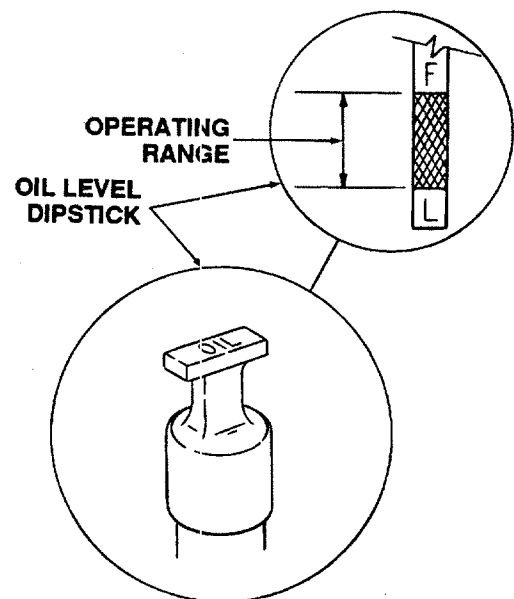

Figure 19
Before each use, the oil level of the engine crankcase should be checked to see that it is filled to the correct level. Close monitoring of the oil level during the first 10 hours of operation of the engine is especially important. Before checking the oil level, clean the area around the oil level dipstick to prevent debris from entering the crankcase. Always keep the oil level between the "FULL" and the "LOW" marks on the dipstick (See Figure 19). When checking the oil level, the engine must be cold, the dipstick must be withdrawn and wiped clean, then inserted all the way before being withdrawn for a true reading.
3. Remove the oil fill cap/dipstick from the oil fill tube and SLOWLY pour oil into the oil fill tube. Fill the crankcase until the oil level reaches the "FULL" mark on the dipstick (Refer to Figure 19).
3. Remove the oil fill cap/dipstick from the oil fill tube and SLOWLY pour oil into the fill tube. The oil capacity is approximately 4 pints. Fill the crankcase until the oil level reaches the "FULL" mark on the dipstick (Refer to Figure 19).